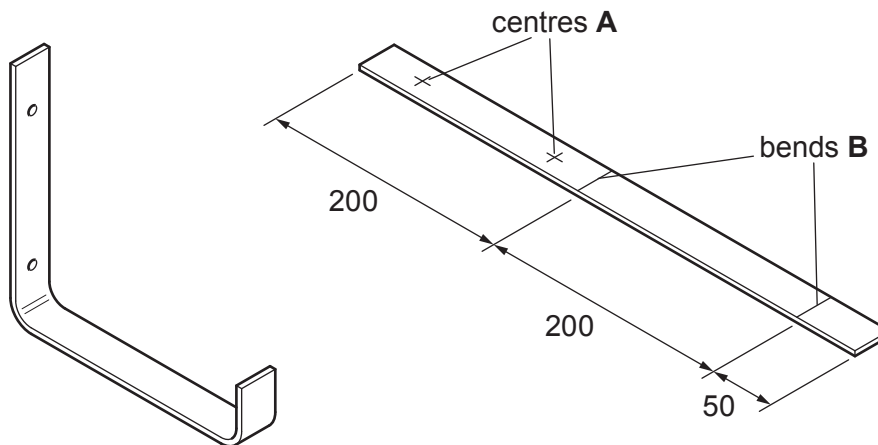

Fig. 13.3
- (d) Fig. 13.3 shows one bracket and a strip of 3 mm thick mild steel from which the bracket will be made. Holes will be drilled at centres **A** and the strip will be bent at **B**.